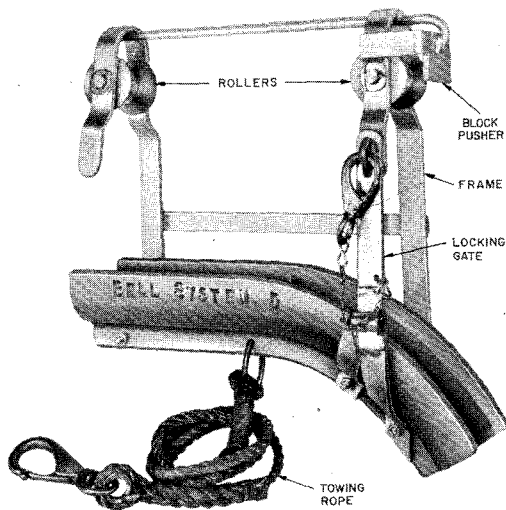

Fig. 3 - D Cable Guide
**2.07** The D Cable Guide (Fig. 3), which weighs 15 pounds, consists of a curved aluminum shoe casting with a steel insert for wear protection. The shoe guides the cable to its position at the suspension strand and may be used also when lashing cable to an existing cable and strand. The shoe is supported on the strand by a steel frame which is equipped with a locking gate, a cable block pusher, and two steel rollers. A towing rope equipped with a swivel eye snap hook is attached to a ring under the guide.